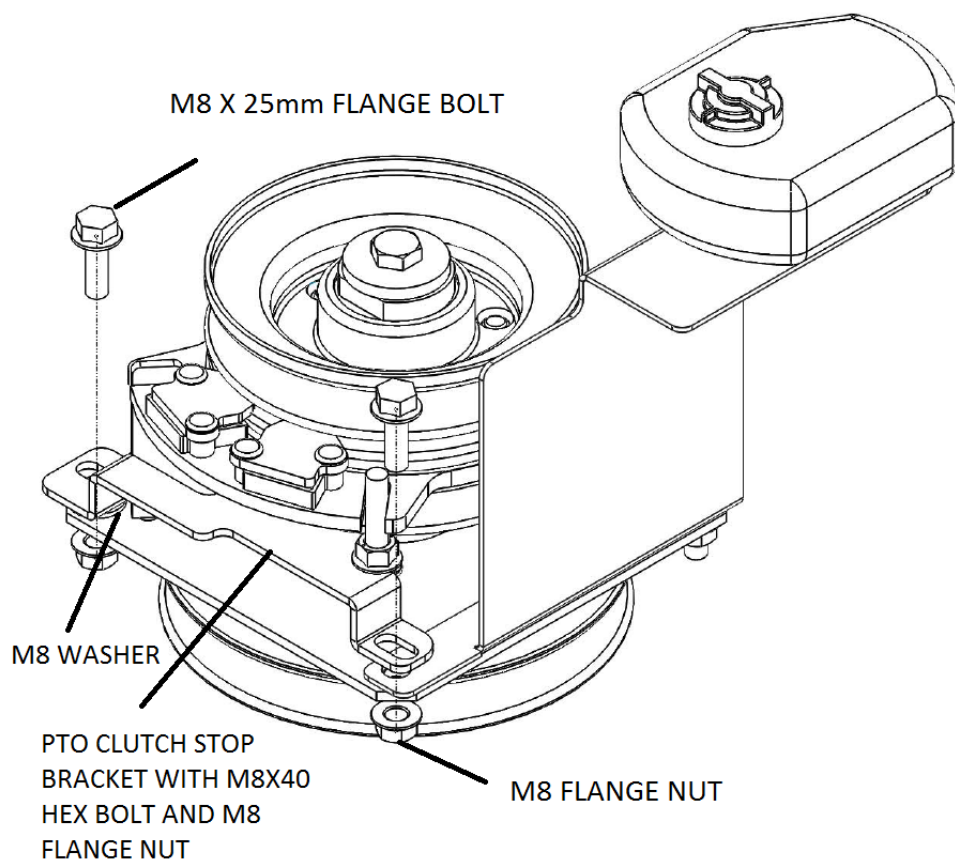

Fig. 3 PTO clutch stop bracket assembly.
- Line up the PTO clutch stop bracket assembly with the existing holes on the Chassis and the Anti-rotation slot in PTO clutch as shown in Figure 3.
- Secure the bracket with existing M8 X25 Flange bolt and M8 Flange nut as shown in Fig. 3.